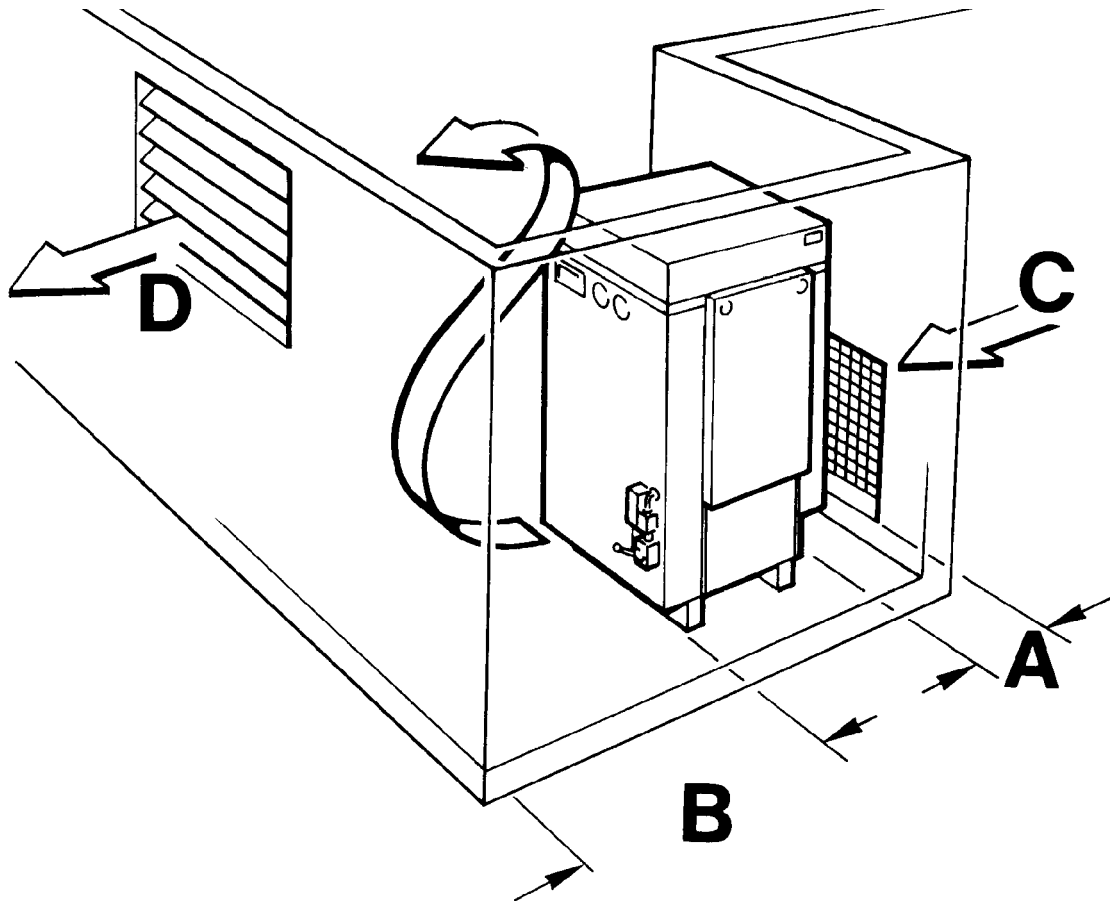

Fig. 11 Installation of the compressor unit (natural ventilation)
- Observe the minimum distances as listed in the table overleaf (Fig. 11).